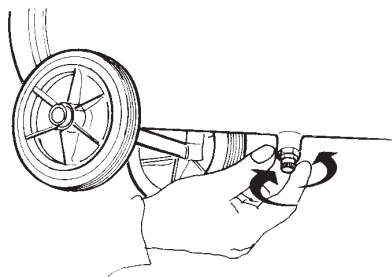

fig. 4
- check the condensation outflow tap (fig. 4);
- Remove the condensation outflow tap if pressure is in the tank (*fig. 4*).
Before carrying out any type of maintenance intervention, unplug the compressor and let the tank pressure out by opening the condensation outflow tap (*fig. 4*); unscrew the tap carefully and let the air out slowly, as metal residues might be in the tank.
Condensation outlet (*fig. 4*)
- empty all the air in the tank (*fig. 4*);